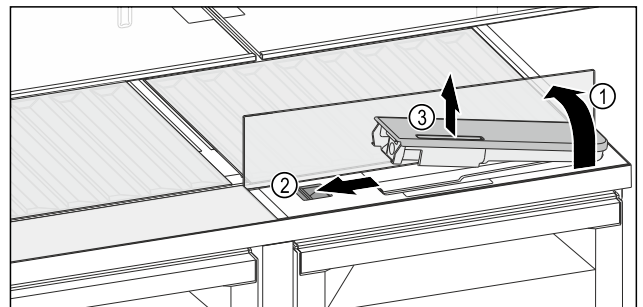

Fig. 129
- Lift the glass panel and fold to the back as far as it will go Fig. 129 (1).
- Slide the slider Fig. 129 (2) to the left.
- Remove the water tank Fig. 129 (3).